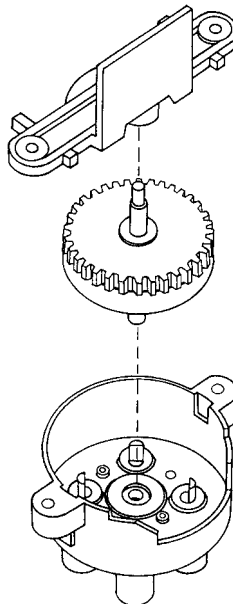

Figure 9.16
- B. Assemble the bearing bar to the distributor block as shown in Figure 9.16.